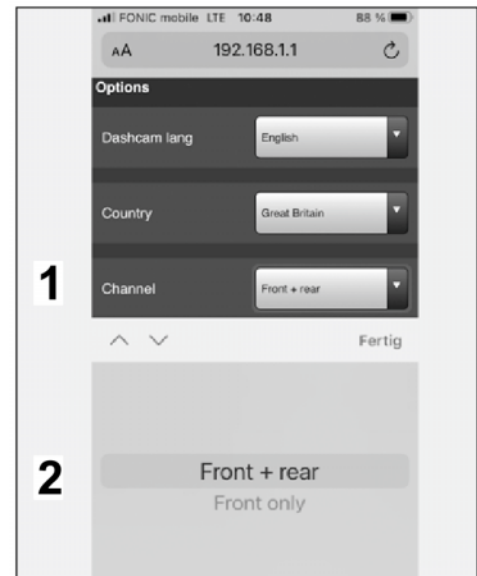

Figure 26
5.3.3 Select camera channel (⇒ *Figure 26*).